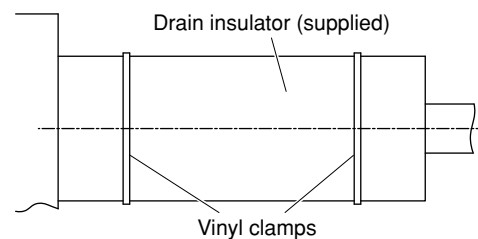

Fig. 3-89b
- (2) After connecting the drain piping securely, wrap the supplied packing and drain pipe insulator around the pipe, then secure it with the supplied vinyl clamps. (Fig. 3-89b)